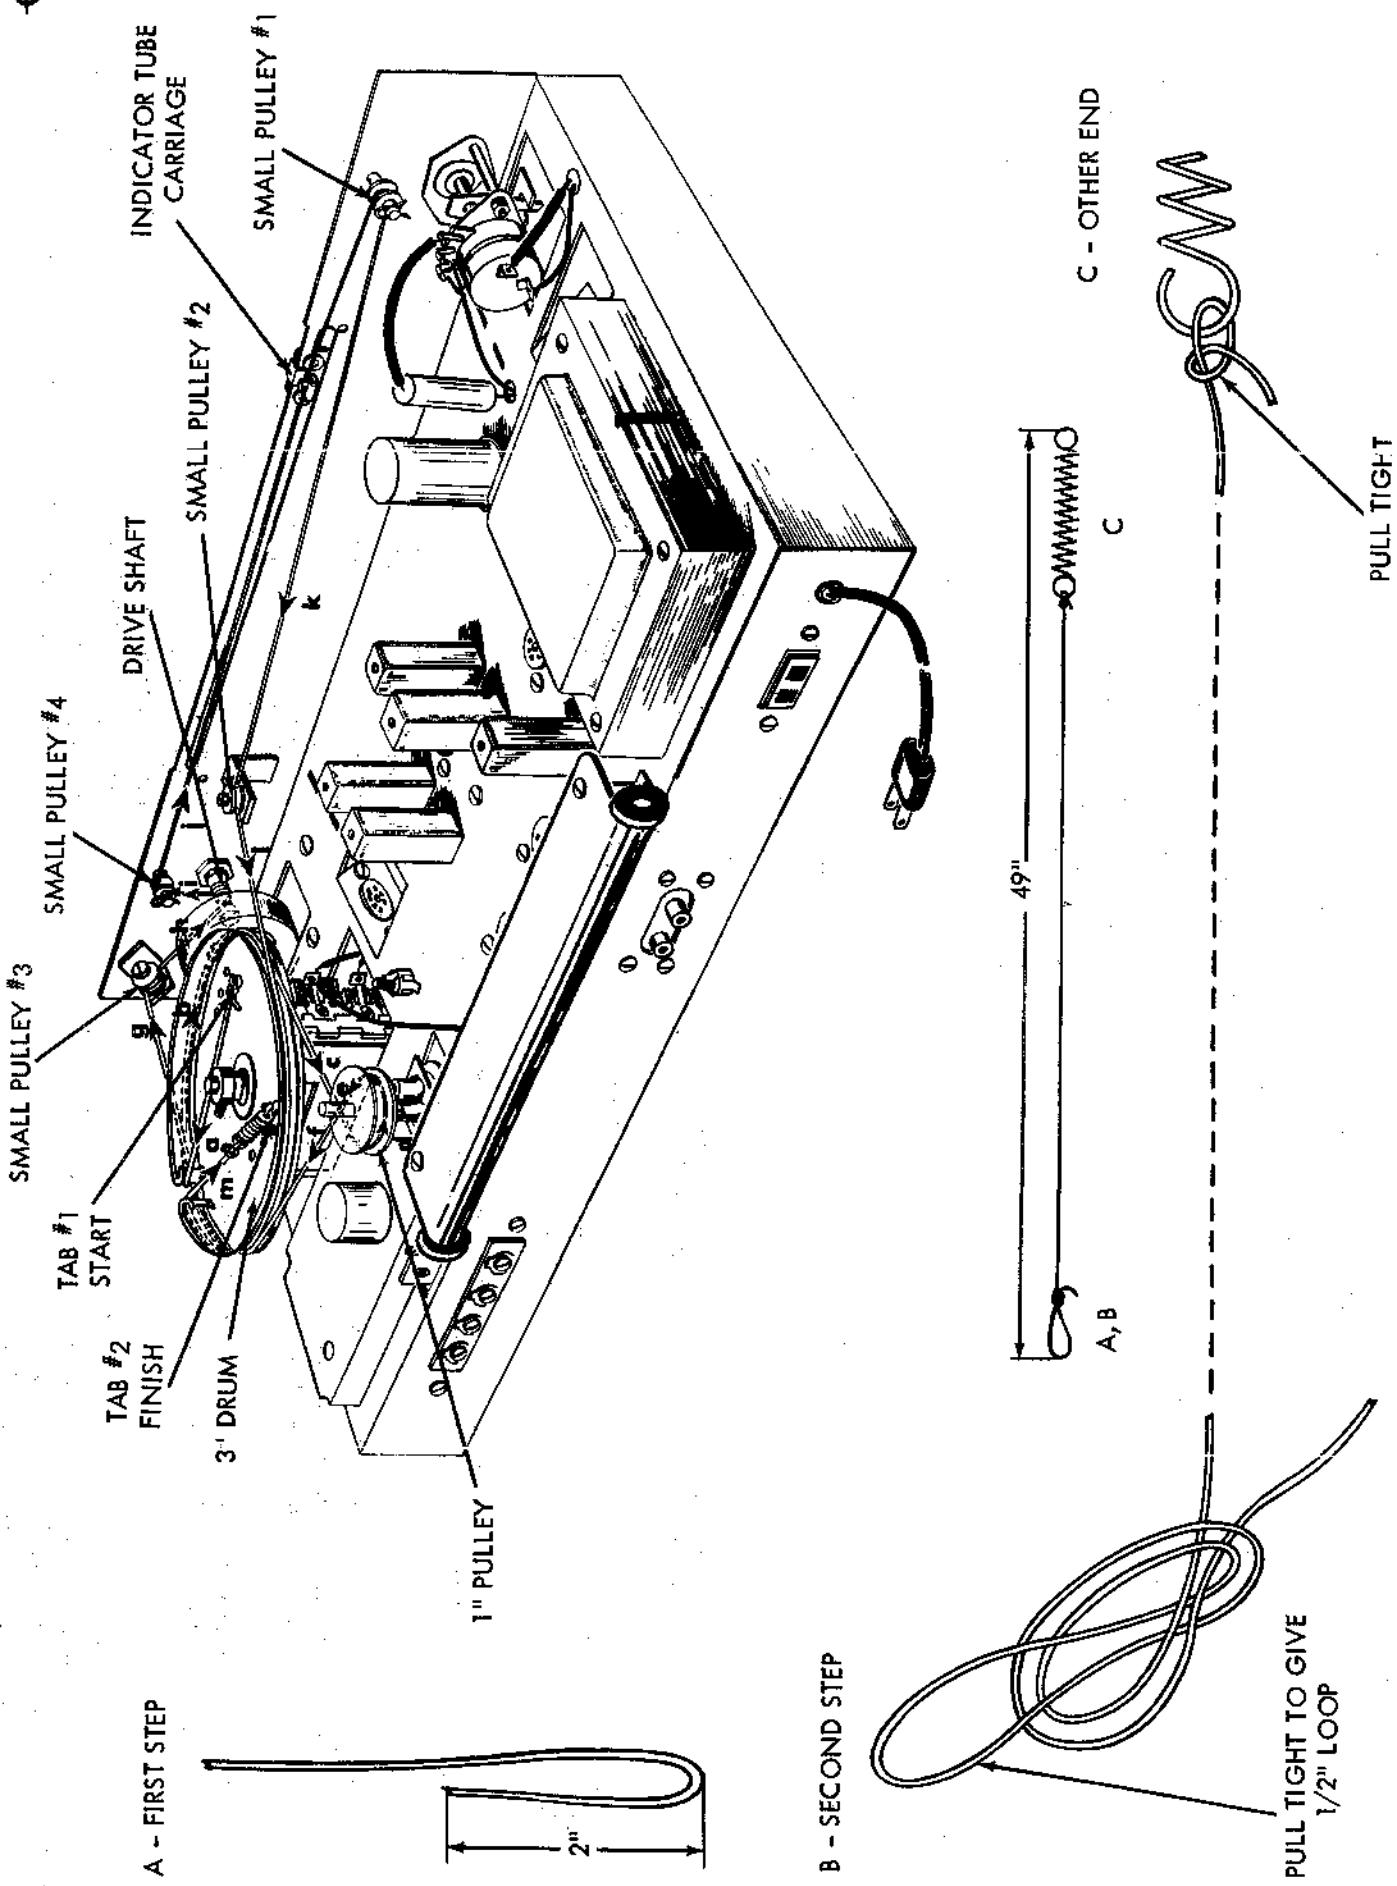

Fig. 12
(7) Fig. 10. Mount the ferrite rod assembly, L1, on the ferrite rod mounting brackets, as shown in Figure 12. Turn the ferrite rod so that the flat part of the mounting bracket is facing up.
- (v) 1. Fig. 12. Prepare the dial cord-and-spring as shown in the insert in figure 12. Make the knot at the loop end exactly as shown in inserts A and B. Make a single knot at the spring end exactly as shown in insert C. Do not cut away any part of the loose ends that remain at this time. Now measure the overall length of the cord-and-spring as shown in the drawing. Move the knot on the spring end until a 49" overall length is obtained. A second and final knot will be made later when a check shows the spring tension to be correct.
- (v) 2. Fig. 12. Turn the drum on the tuning capacitor shaft clockwise until the plates are fully meshed (closed). When the rear of the chassis faces you, the break-out slot on the rim of the drum should be facing the left hand side of the chassis. If it does not face the left hand side of the chassis, loosen the set screw that secures the drum to the shaft and set the drum to this position. In any case, check that the drum is on tight and can turn freely without rubbing.
- (v) 3. Fig. 12. The shaft on the FM Front End Assembly should not be turned to either extreme of its range. It should be left at the approximate center position of its rotation. This will prevent any possible damage to the stop on the gear assembly when threading.
- (v) 4. Fig. 12. Slip the loop in the cord over tab #1, as shown.
- (v) 5. Fig. 12. String the cord exactly as shown, following the arrows and instructions implicitly. Run the cord (just attached to tab #1) through the break-out slot, clockwise, half-way around the rim of the 3" drum. Next, run the cable around the rim of the 1" pulley in a counterclockwise direction. The cord is then run back to the 3" drum and continues in a clockwise direction around this 3" drum. (Note: the cord returning from the 1" pulley crosses the cord coming from the 3" drum at some point between these two pulleys. The cord returning from the 1" pulley is to be placed over the cord coming from the 3" drum). After running about 1/4 turn around the rim of the 3" drum, run the cord to small pulley #3, and around
- (v) 6. Fig. 12. Emerging from underneath the drive shaft, the cord is then run over small pulley #4, over to and around small pulley #1, and back to and around small pulley #2. From small pulley #2 it is run back to and clockwise around the 3" drum to the break out slot. Note that this cord is run around the 3" drum next to and above a cord that has been previously wound around this pulley. Run the end of the cord with the spring through the break out slot and attach the extreme end of the spring to tab #2. If the tension on the spring is proper, the spring loops will be open slightly and will turn both the 3" drum and the 1" pulley. In this case make a second knot where the cord attaches to the spring. If the tension is too great or too little, loosen the knot holding the spring and readjust so that the spring has sufficient tension. When the proper tension is found, tie the second knot at the dial cord-to-spring attachment, and trim both loose ends of the dial cord to 1 1/2". Apply lacquer or dope to the trimmed dial cord ends to avoid unraveling.
- (v) 7. Fig. 12. With the capacitor fully meshed (maximum capacity), turn the shaft on the FM Front End Assembly by hand in a counter-clockwise direction, observing when the stop tab on the brass drive gear of the FM Front End Assembly just touches the stop tab formed at the notch on the shaft bracket. Do not force these components as the gears on the FM Front End Assembly may be damaged. It should turn fairly easily, although the cord around the 1" pulley impedes its motion.
- (v) 8. Fig. 12. Push the carriage to the right (rear view) towards the potentiometer so that approximately 1/8" of slot is visible between the edge of the carriage and the edge of the slit in which the carriage rides. Loosen the screw and washer on the carriage and slip the dial cord under the washer, as shown. Retighten the screw to fasten the tuning eye carriage to the dial cord.
- (v) 9. Fig. 12. Now turn the drive shaft clockwise. If the movement is smooth from the position that the capacitor is fully meshed or fully open, and the pulley on the FM Front End Assembly turns through the complete action, the job has been properly completed.